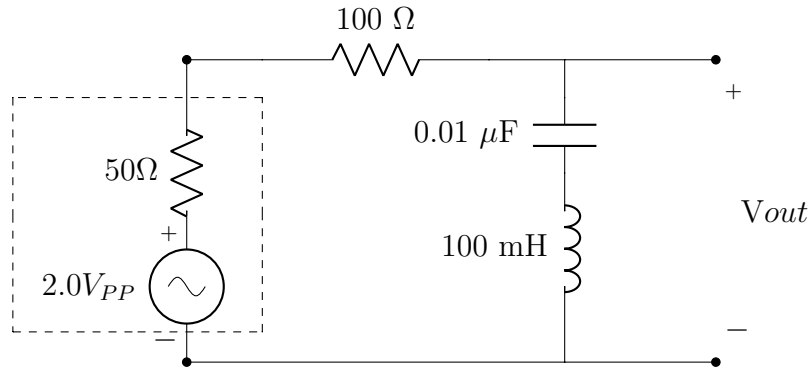

Figure 7.4: Modified Series RLC Resonant Circuit
1. Switch the positions of the resistor with inductor and capacitor to get the series RLC circuit shown in Figure 7.4.